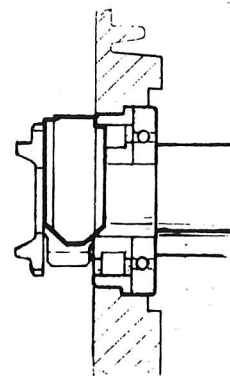

Fig. 21. ADAPTOR 18G284AAC/2 IN POSITION
8. Insert adaptor (18G284AAC/2) between 4th. gear and the 1st. motion shaft bearing, ensuring that the 'thin' face is against the bearing (Fig. 21). Using puller (18G284), with adaptors (59A, 60A and 61A), withdraw the 1st. motion shaft assembly (of which the 4th. gear is a part), and remove needle bearing and the 4th. gear baulk ring.